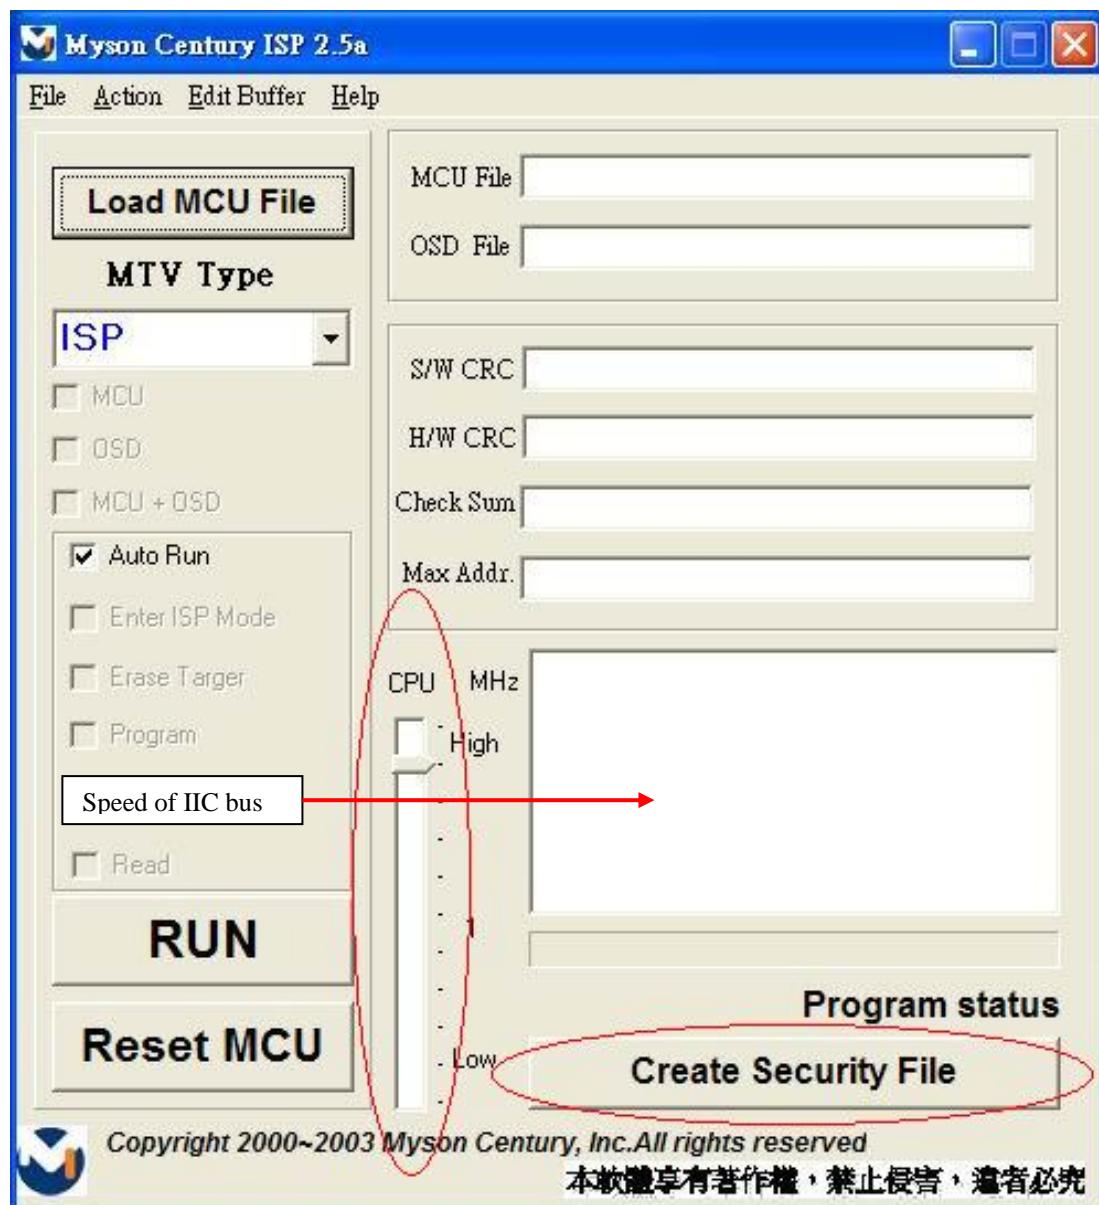

Fig. 2.4
- 2.4 Press “ Create Security File “ button to key in Security code . Adjusting bar to decrease speed of IIC bus , See Fig. 2.4 .